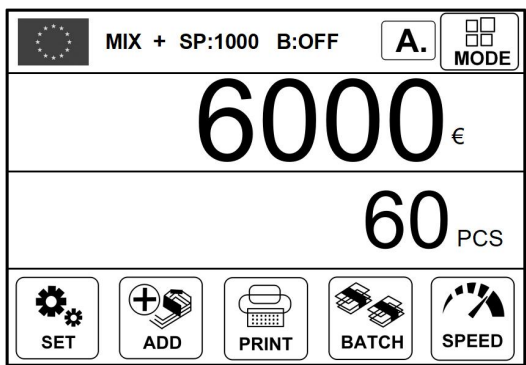

Figure 27
3) Take out the US dollars in the stacker, then put the euro into the machine to count. The machine interface displays as follows at the end of counting: The flag in the upper left corner is identified as euro. as shown in the following Figure 27.